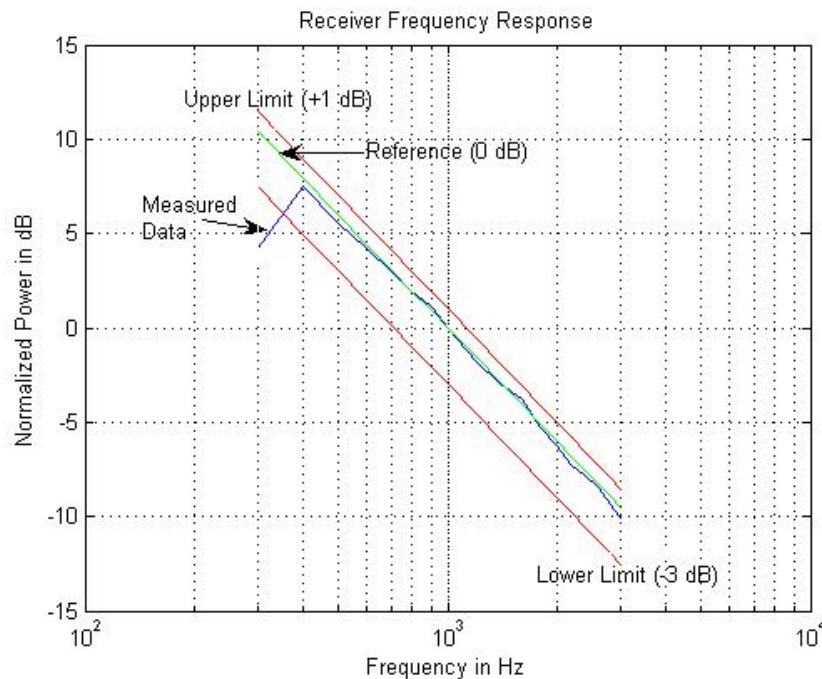

Figure 12: Receiver Frequency Response Curve
*Pass with Exceptions.* Figure 12 shows that, between 300 Hz to 350 Hz, the measured data dips below the lower limit. Some of this may be attributable to the measurement technique; however, the level of the measured data at 300 Hz is significantly below the lower limit, while the measured data from 350 Hz to 3 KHz is right on the reference line. The test case verified that the DVR’s transmitter frequency response for the most part conforms to the vendor’s specification. This test ensures that the DVR can receive, demodulate, and render baseband signals (in the range of 300 Hz to 3 KHz) at the correct power level, which ultimately affects user-heard audio quality.